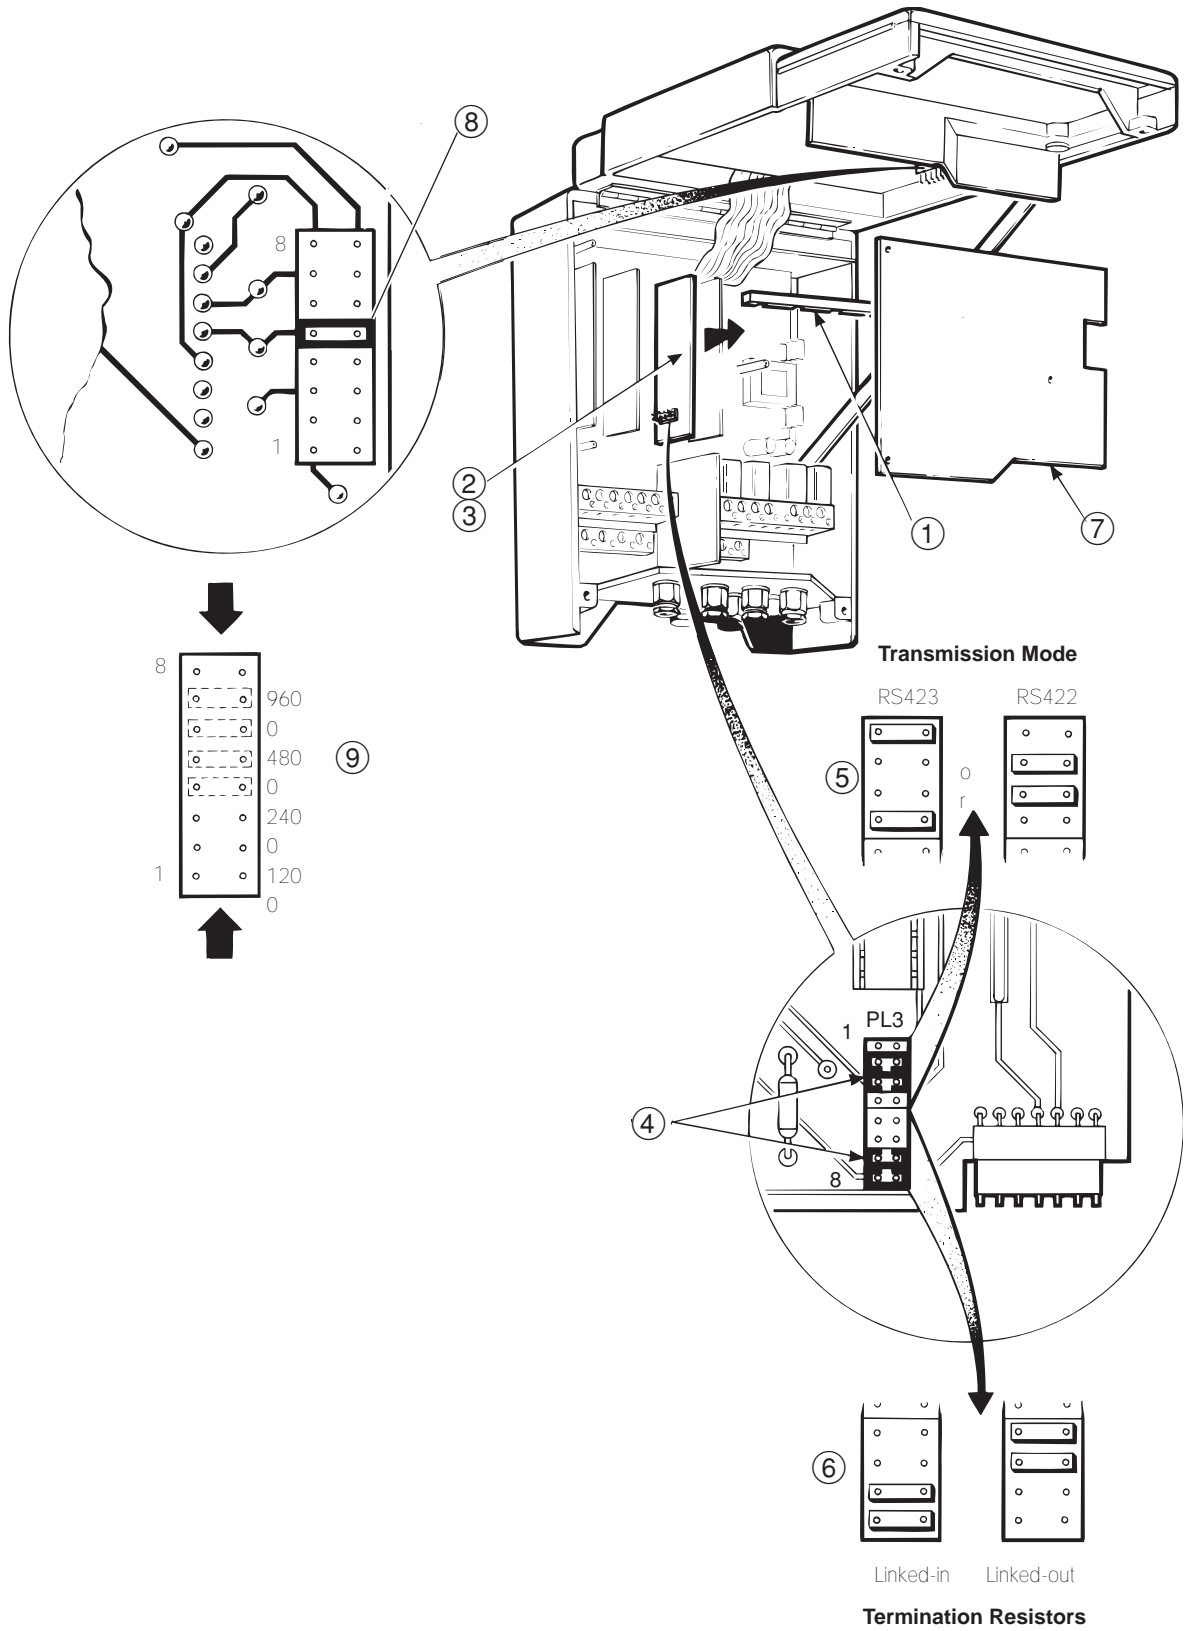

Fig. 4.1 Plug-in Link Locations for Transmission Modes and Termination Resistors
4.2 Selecting the Transmission Mode and Termination Resistors – Fig. 4.1
4.3 Selecting the Transmission Speed (Baud Rate) – Fig. 4.1